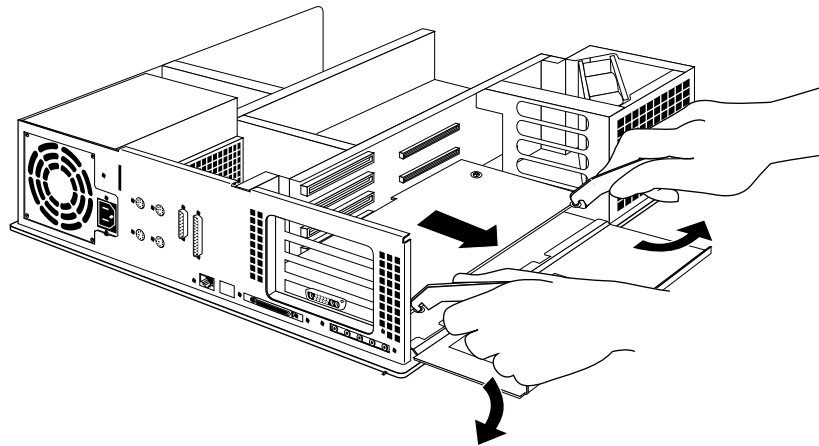

Figure 2-16 Removing the XL Board From the Chassis
- Hook the ends of the wrenches in the small holes on each side of the front of the board, as shown in Figure 2-16.